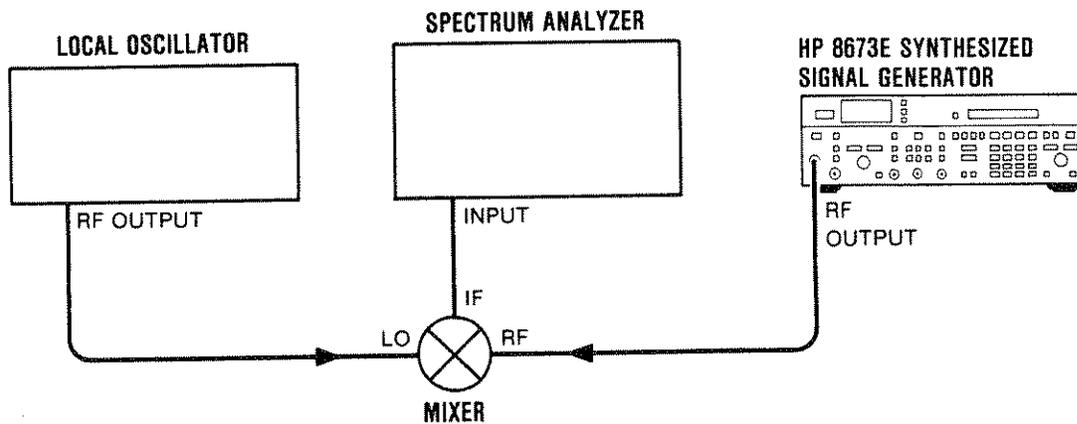

Figure 4-6. Single-Sideband Phase Noise Test Setup
2. Connect the equipment as shown in Figure 4-6.